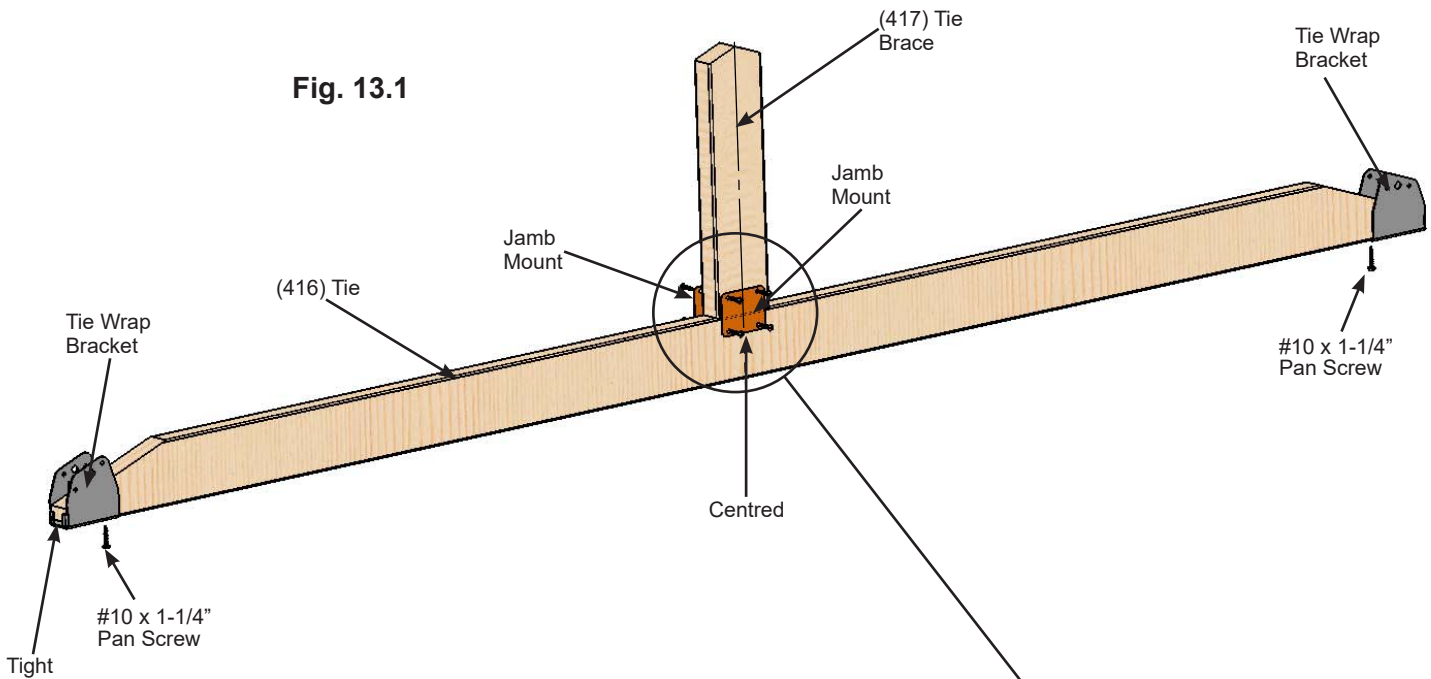

Fig. 13.1
A: Place one (417) Tie Brace centred, tight and square to the top of (416) Tie. Attach (416) Tie to (417) Tie Brace using two Jamb Mounts (one per side) with four #8 x 1" Pan Screws per mount. Repeat to complete five Tie Brace Assemblies. (fig. 13.1 and 13.2)
B: Attach one Tie Wrap Bracket to each end of each (416) Tie with one #10 x 1-1/4" Pan Screw per bracket using the inside holes. (416) Tie is tight to end of bracket. (fig. 13.1)